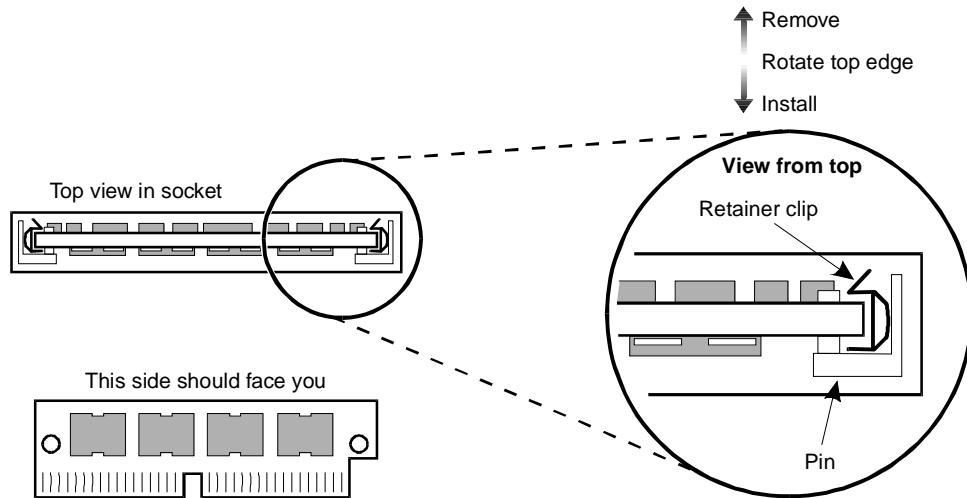

Figure C-2. Removing or Installing Memory SIMMs
9. To remove an existing SIMM, gently release the metal snap locks at the edge of the SIMM connectors. See Figure C-2.